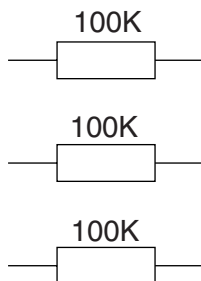

Fig. 9
- (ii) When building a prototype circuit on a breadboard it is found that there are no 150K resistors available, the nearest value is 100K. Add connections to the three resistors shown in Fig. 9 to give a resistance of 150K.